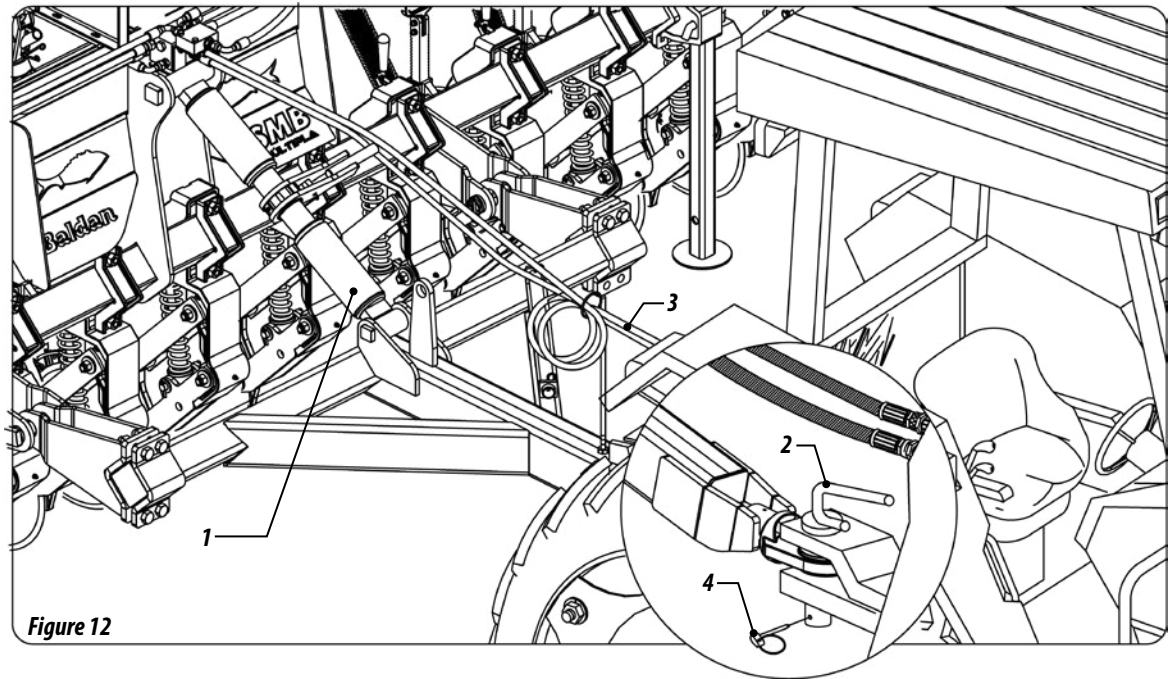

Figure 12
- 1- Level the seeder head in relation to the tractor coupling through the regulator (1).
- 2- Couple the seeder to the tractor through the coupling pin (2) place the latch (4). Figure 12.
- 3- Couple the hoses (3) in the tractor coupling.
- 2- With the seeder down, make sure it is at the same level as the tractor. Otherwise, level it through the head regulator (1), Figure 12.